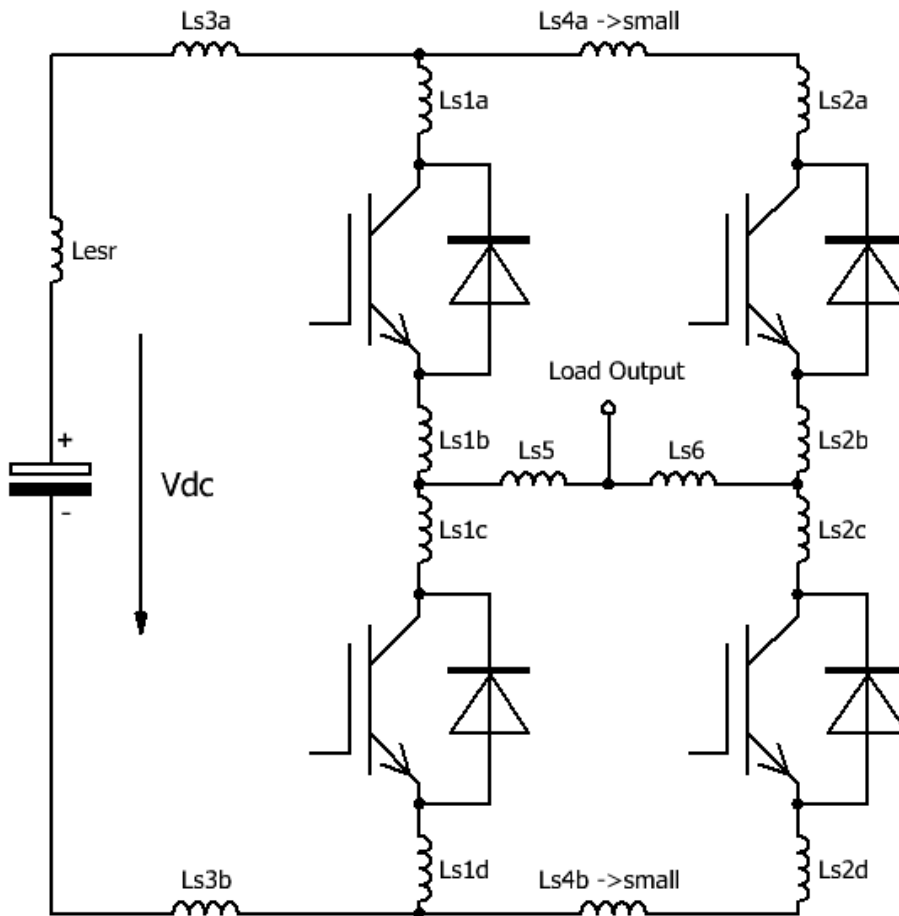

Fig. 20 Half-bridge topology with stray inductances
- The converter should be constructed as symmetrically as possible with respect to the paralleled IGBT modules in order to ensure symmetrical operation. The DC-link stray inductance of each paralleled IGBT module in particular should be similar ($L_{s1} \approx L_{s2}$, $L_{s5} \approx L_{s6}$ in Fig. 20).